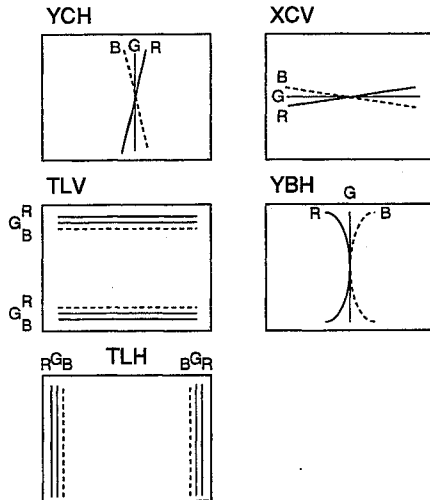

Fig. 3-26 Convergence compensation VR,coil, and compensator
3. When the nonconvergence of the TILT component is included in the horizontal convergence, insert the TLH compensator into the deflection yoke for adjustment. (Fig.3-26)
3. When the nonconvergence of the TILT component is included in the vertical convergence, insert the TLV compensator into the deflection yoke for adjustment. (Fig.3-26)